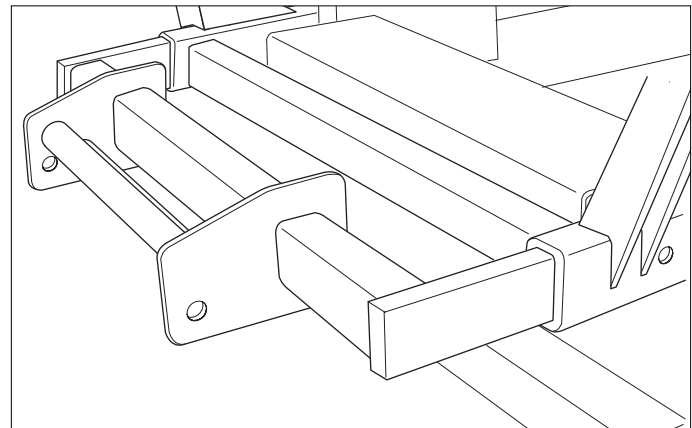

Figure 35. Weight Rack Installation
3. Slide the weight mount rack into the main frame tubes and align with the holes drilled through the frame (see Figure 35). It may require you drive the arms into the frame tubes using a wooden block and hammer.